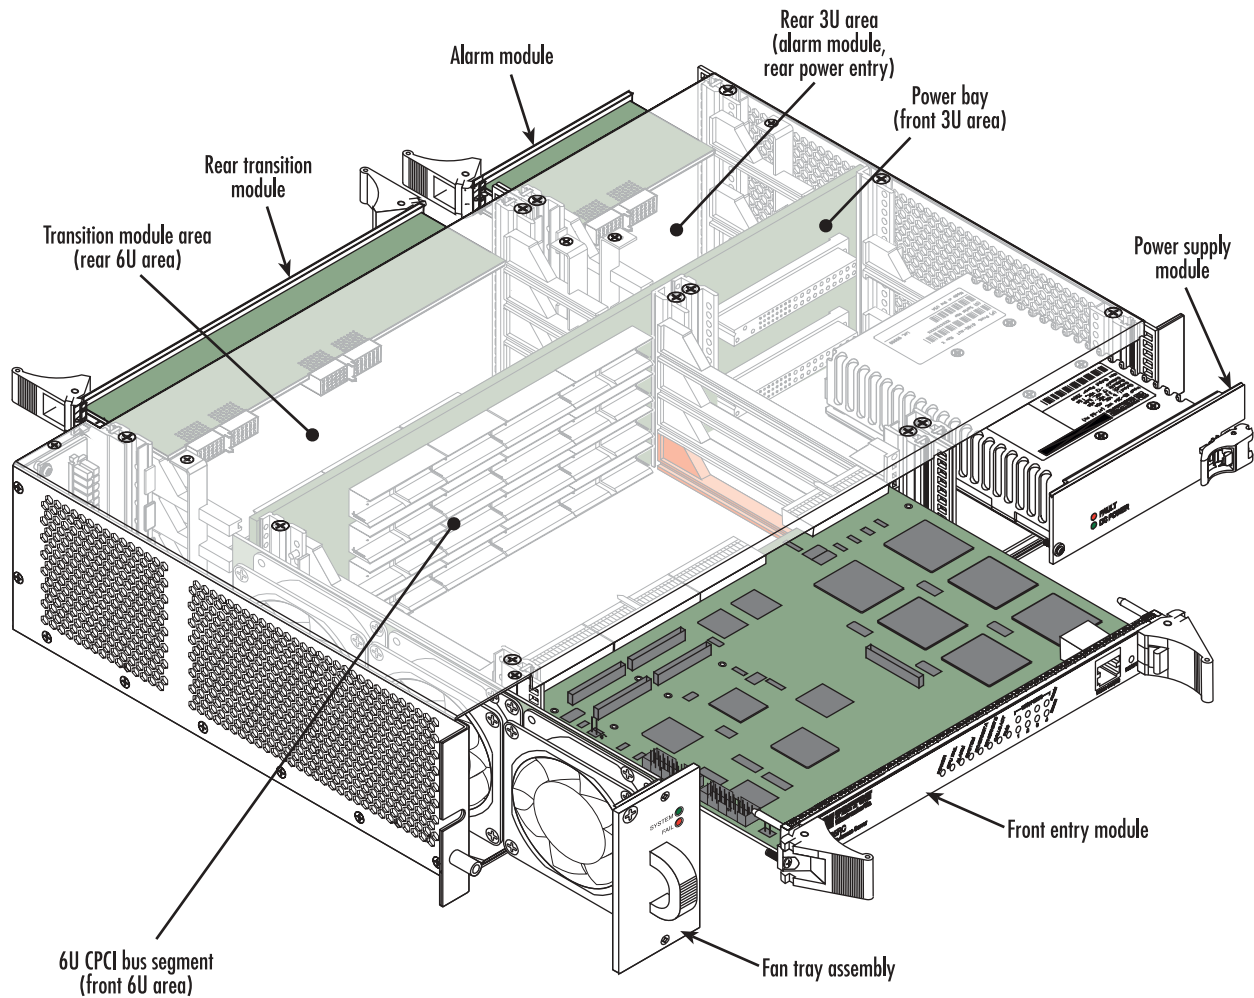
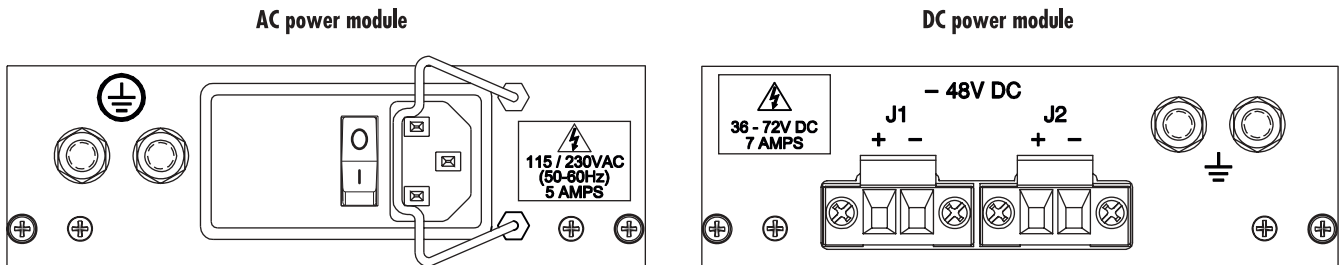

Figure 2. Model 6276 ForeFront Half-Pipe Chassis
Figure 5. AC and DC rear power entry modules
There are four 6U x 160mm slots (a full CPCI bus segment) at the front of the chassis (see figure 2). Front-entry ForeFront modules, in accordance with PICMG 2.0 R2.1 CompactPCI specifications, are plugged into these slots.
- A set of four 6U slots for ForeFront transition modules (see figure 2 on page 17). These modules typically contain cable connections for I/O interfaces such as T1/E1 trunks, optical fiber trunks, DSL lines, Ethernet, etc.
- Power input module—either Patton Model 6112 (DC) or Patton Model 6117 (AC) (see figure 5 on page 19). These modules provide power input to the power supplies in the front of the chassis (see figure 2 on page 17). The input module provides input for both power supplies.